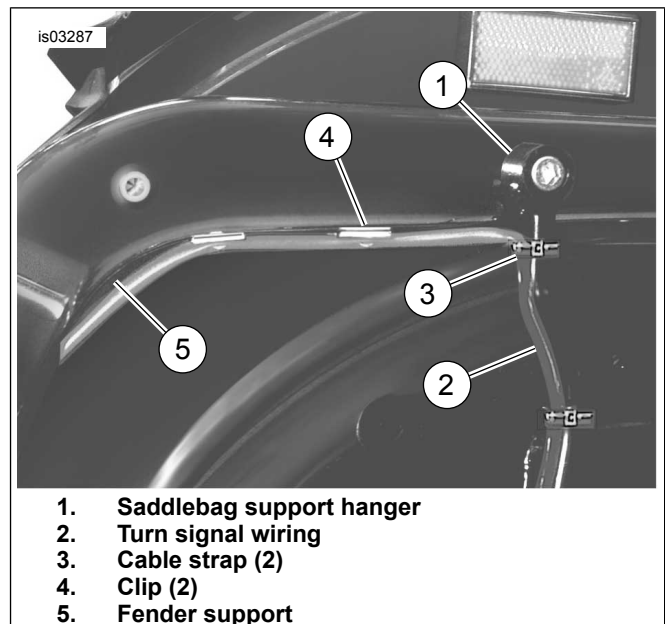
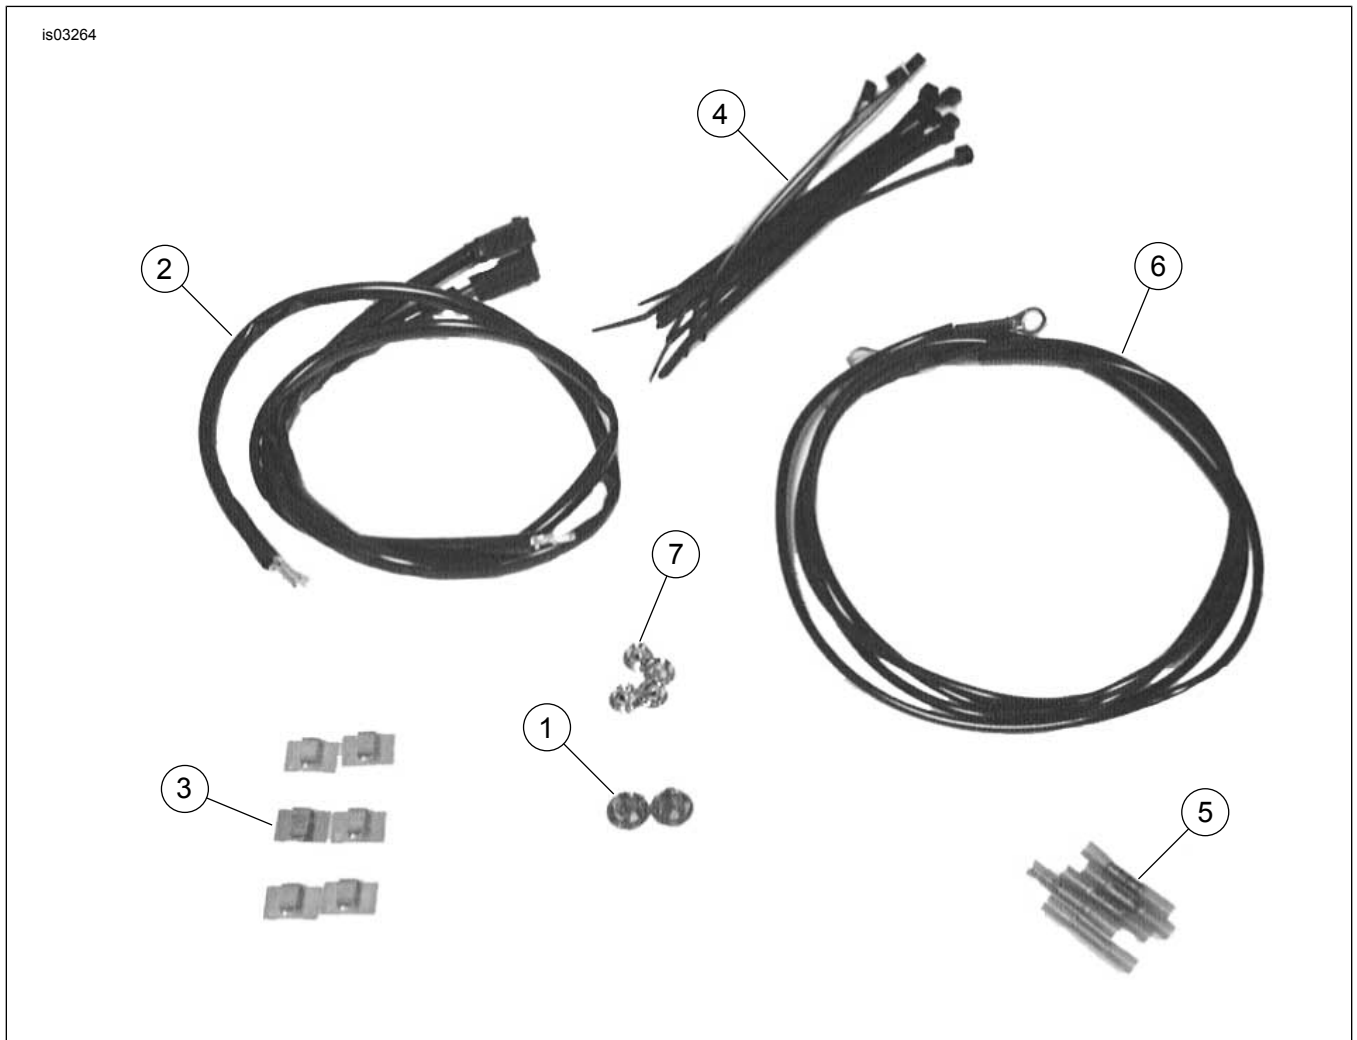

Figure 12. Route Wiring and Install Straps and Clips
Figure 19. Service Parts: Turn Signal Wiring Kit (72509-00)
1. See Figure 19. Install terminals in turn signal connectors (2-place) at locations previously noted. Refer to AMP MULTILOCK ELECTRICAL CONNECTORS in Service Manual.
2. Connect socket half of turn signal connector to pin half on wire harness (2).
3. Remove adhesive backing from two clips (3) and install on support plate.
5. See Figure 12. Continue routing the wiring up the inside of saddlebag support hanger (1) and fasten turn signal wiring (2) to hanger using cable straps (3). Clip excess plastic from ends of straps.
6. Remove adhesive backing from two clips (4) and install to bottom of fender support (5). Insert wiring into each clip and bend tabs to capture wiring.
- a. Measure and cut a section of wire from the wire harness (Figure 19, Item 2) provided in kit.
- c. Using butt connectors (Figure 19, Item 5), splice jumper between original wire and terminal end.